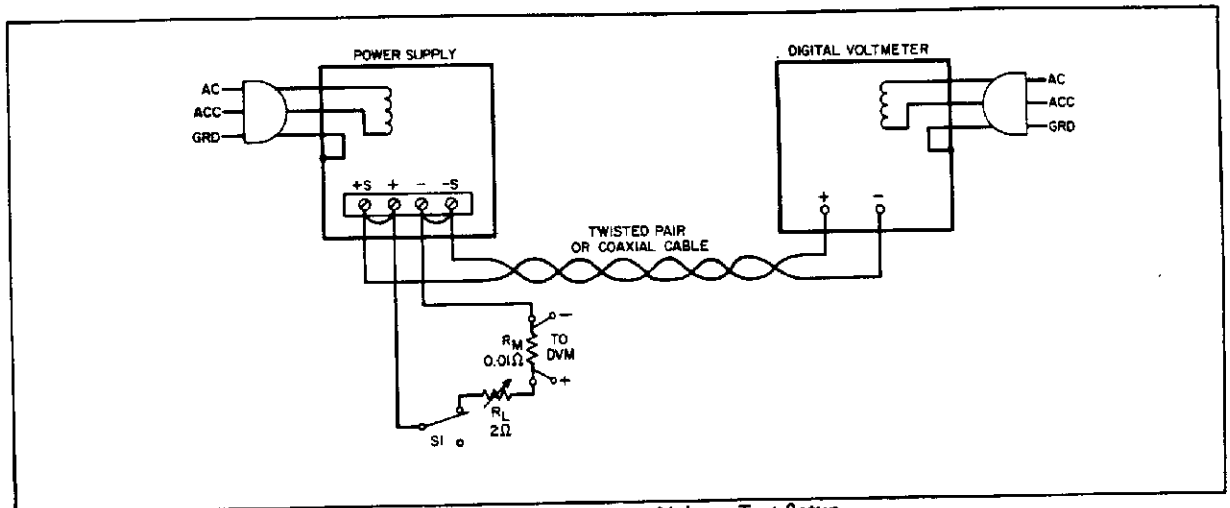

Figure 5-2. Constant-Voltage Test Setup
- Connect test setup shown in Figure 5-2. Set R_L to maximum resistance initially.
- Connect test setup shown in Figure 5-2.
- a. Connect load resistance and digital voltmeter as illustrated in Figure 5-2.